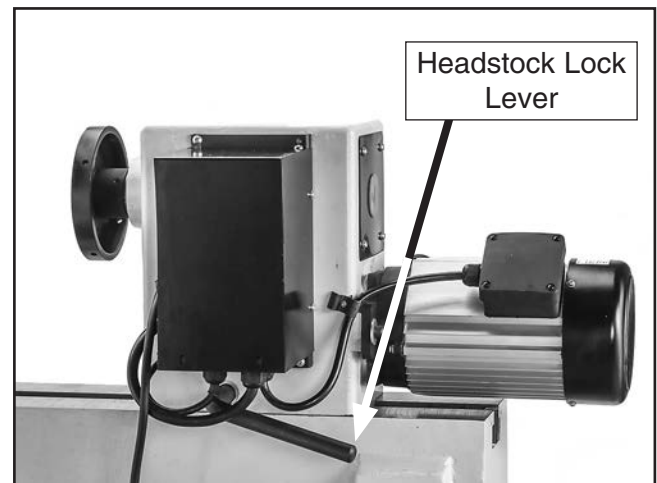

Figure 21. Headstock lock lever location.
2. Loosen the headstock lock lever (see **Figure 21**).